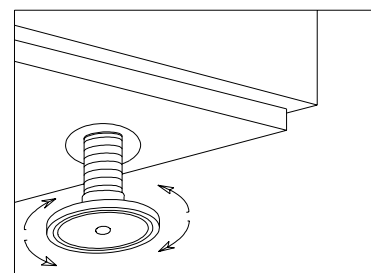

Fig. 1
- Level and regulate the height of the appliance Fig. 1